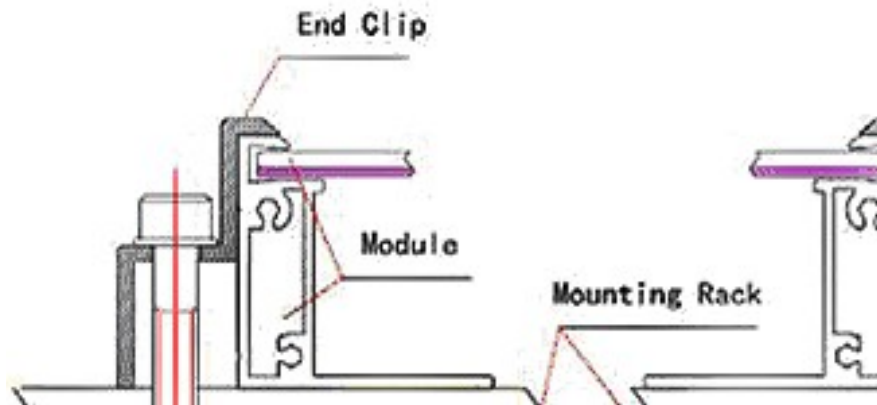

FIG 6 Clamping mounting method
- ✚ Using suitable module clamps on the side of the module frame to mount the modules, as shown in FIG 6. The thickness of the clamp should be no less than 3mm, the length should be no less than 40mm and the length of the overlap should be no less than 5mm.
- ✚ Modules should be mounted by screw, flat washer and spring washer on mounting rack. The clamp should be mounted in a symmetric position respect to the center, as shown in FIG. 6. The torque should be determined by the mechanical design standard of the screw. For instance, M8--16-20N.m.